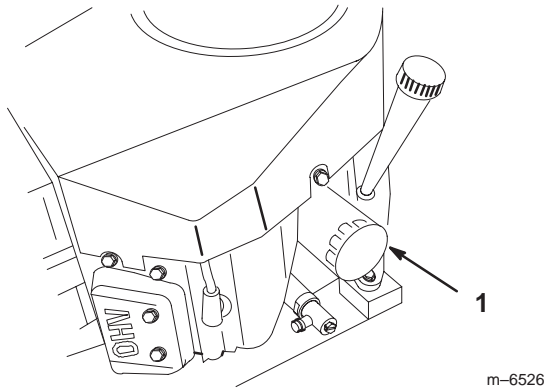

Figure 22
- Remove the old filter (Fig. 22).
- Install the replacement oil filter to the adapter. Turn the oil filter clockwise until the rubber gasket contacts the filter adapter, then tighten the filter an additional 3/4 turn (Fig. 22).